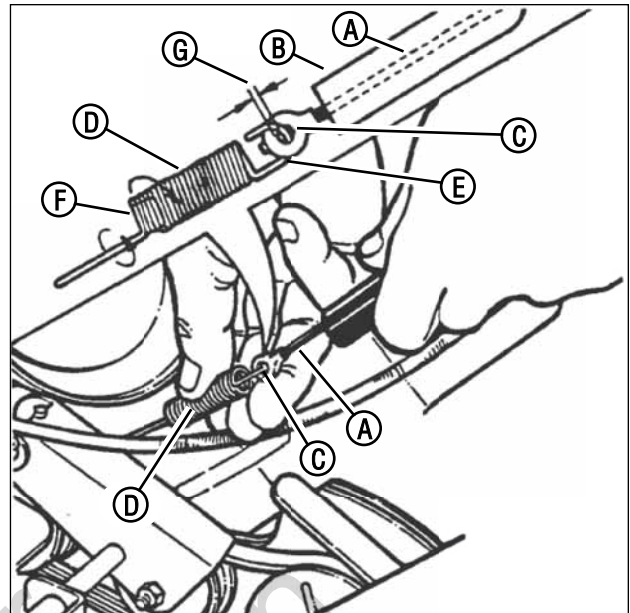

Figure 23: Wheel drive control adjustment
- The wheel drive control is properly adjusted when there is 1/16" to 1/8" clearance (G, Figure 23) between the inside of the spring hook (E) and the inside of the clutch cable eye (C) with the wheel drive control released.